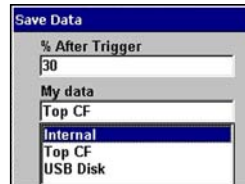

Figure 5-13 Sample Save Data dialog box
4. Set **Internal** as the **My Data** option and press **N/X** to close the dialog box (Figure 5-13).